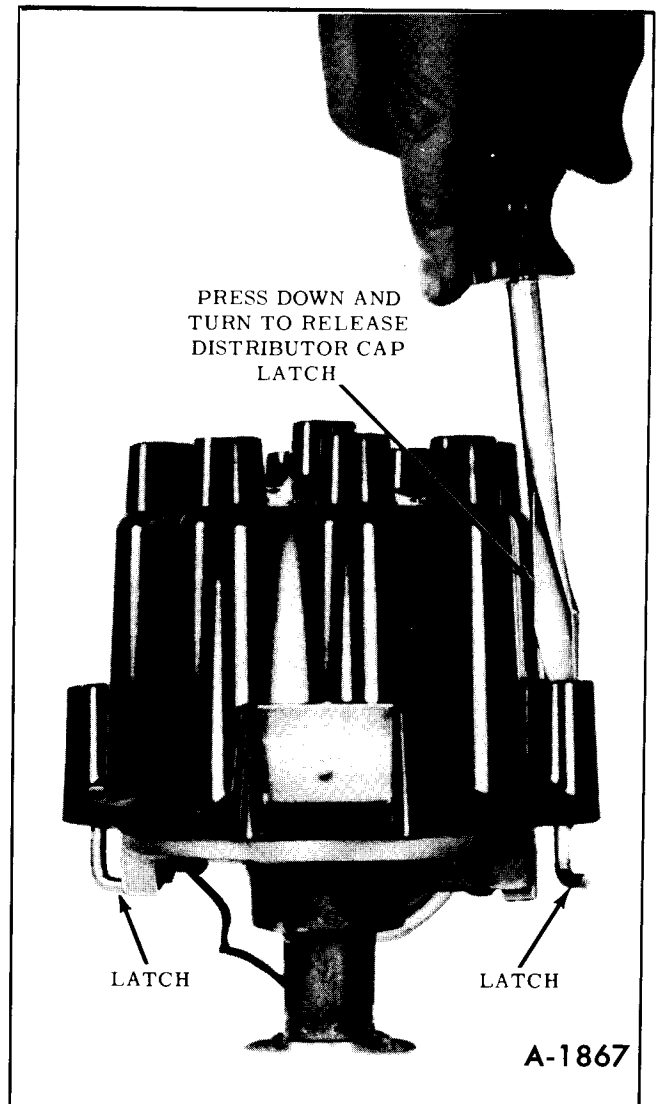

Figure 35—Removing Distributor Cap
1. Remove distributor cap and rotor. (figure 35)
2. Remove distributor cap as shown in Figure 35.